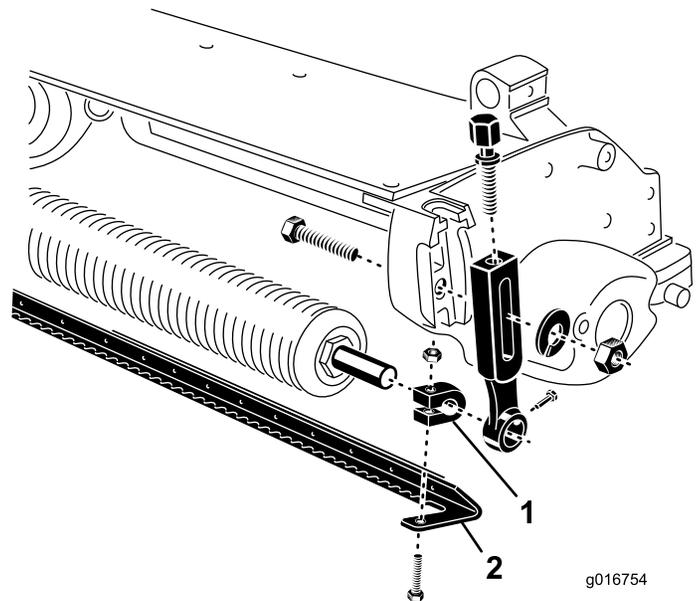

Figure 2
5. Insert a shaft clamp onto each end of the roller shaft (Figure 2).
8. Position the comb between the front roller and the cutting unit as shown in Figure 2.
9. Loosely install the comb to each clamp with a capscrew and nut (Figure 2). Do not tighten.